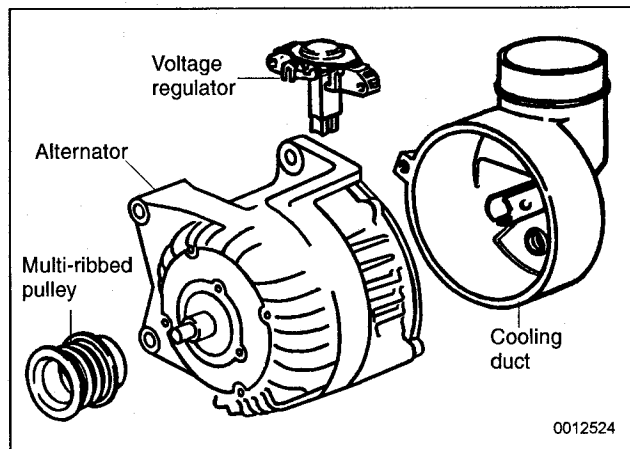

Fig. 6. Alternator assembly and related parts.
3. Remove cooling duct from rear of alternator. See Fig. 6.